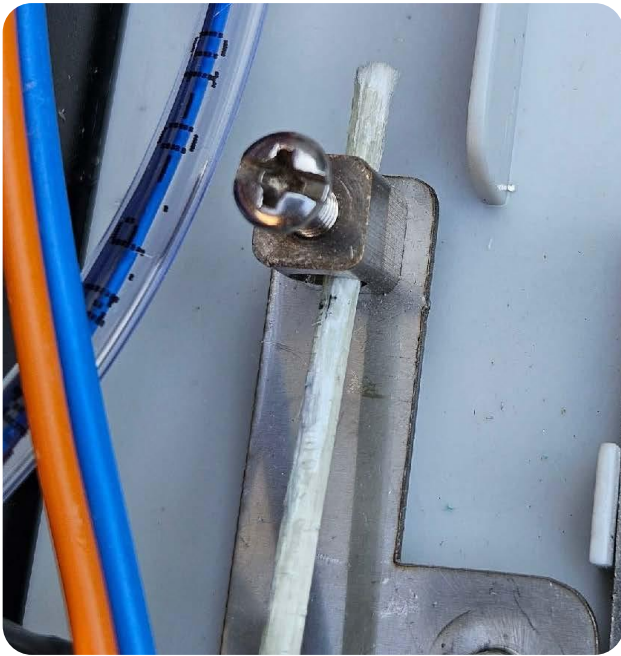

Fig. 3a
- Insert GRP rod onto the retention bracket as shown in Fig. 3a